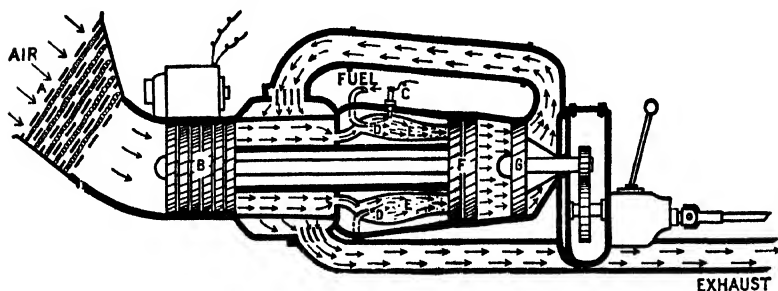

FIG. 152a Diagram of gas-turbine
driving turbine (G) and set it rotating in the same manner as a steam turbine. The engine requires to work at a very high speed and gets very hot; thus it requires to be made of special steel of great strength and heat resistance. Fig. 152a represents a type of gas-turbine experimentally used for driving automobiles.